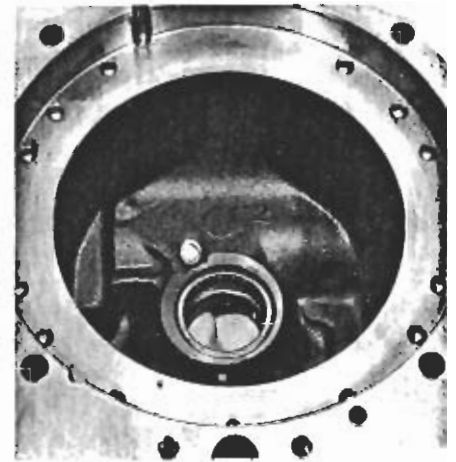

Figure 2 Needle bearing in case
**STEP 2** Press a needle bearing (24) approximately 1/8 inch (3.2 mm) below flush with front face of bearing bore, figure 2.